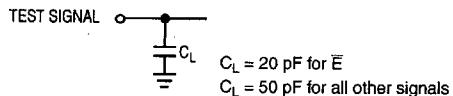

Figure 6-2. Signal Loading for Timing Specifications Unless Otherwise Specified
5. The three-state condition is when the device is not actively driving data. Refer to Figure 6-2, Signal Loading for Timing Specifications Unless Otherwise Specified, and Figure 6-5, Test Point Levels for Three-State to Driven Time Measurements, for detailed measurement information.